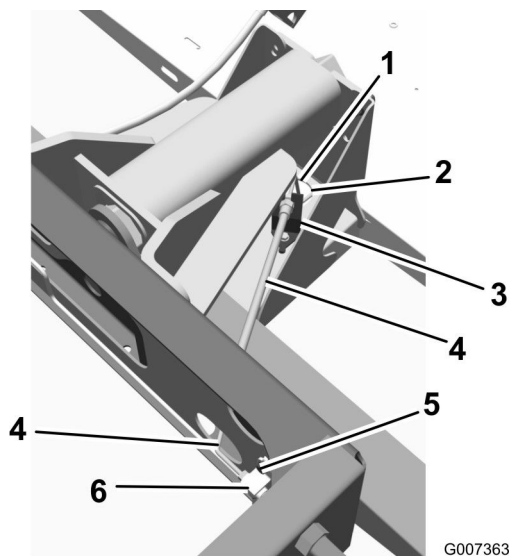

Figure 15
11. Install the joining brake hose (104-6795) to the (87-3560) “Tee”, and then connect the hose end to the (104-6794) center brake tube (Figure 15). Insert the hose end into the hose bracket and retain with the clip (104-7092).